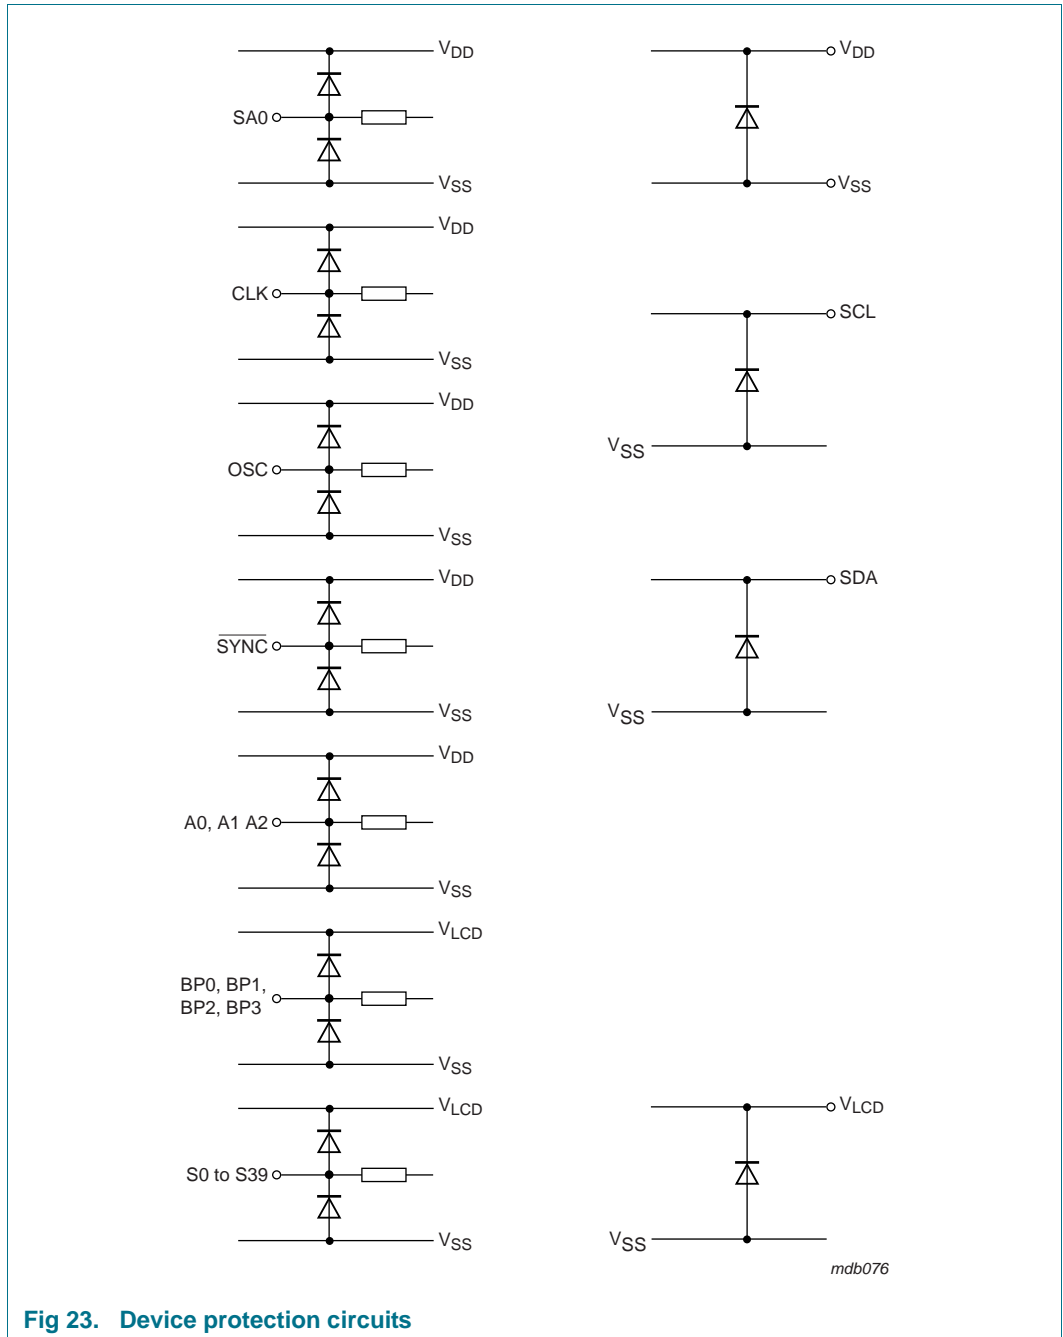

Fig 23. Device protection circuits
- [5] When tested, I²C pins SCL and SDA have no diode to V_{DD} and may be driven to the V_I limiting values given in Table 18 (see Figure 23 as well).